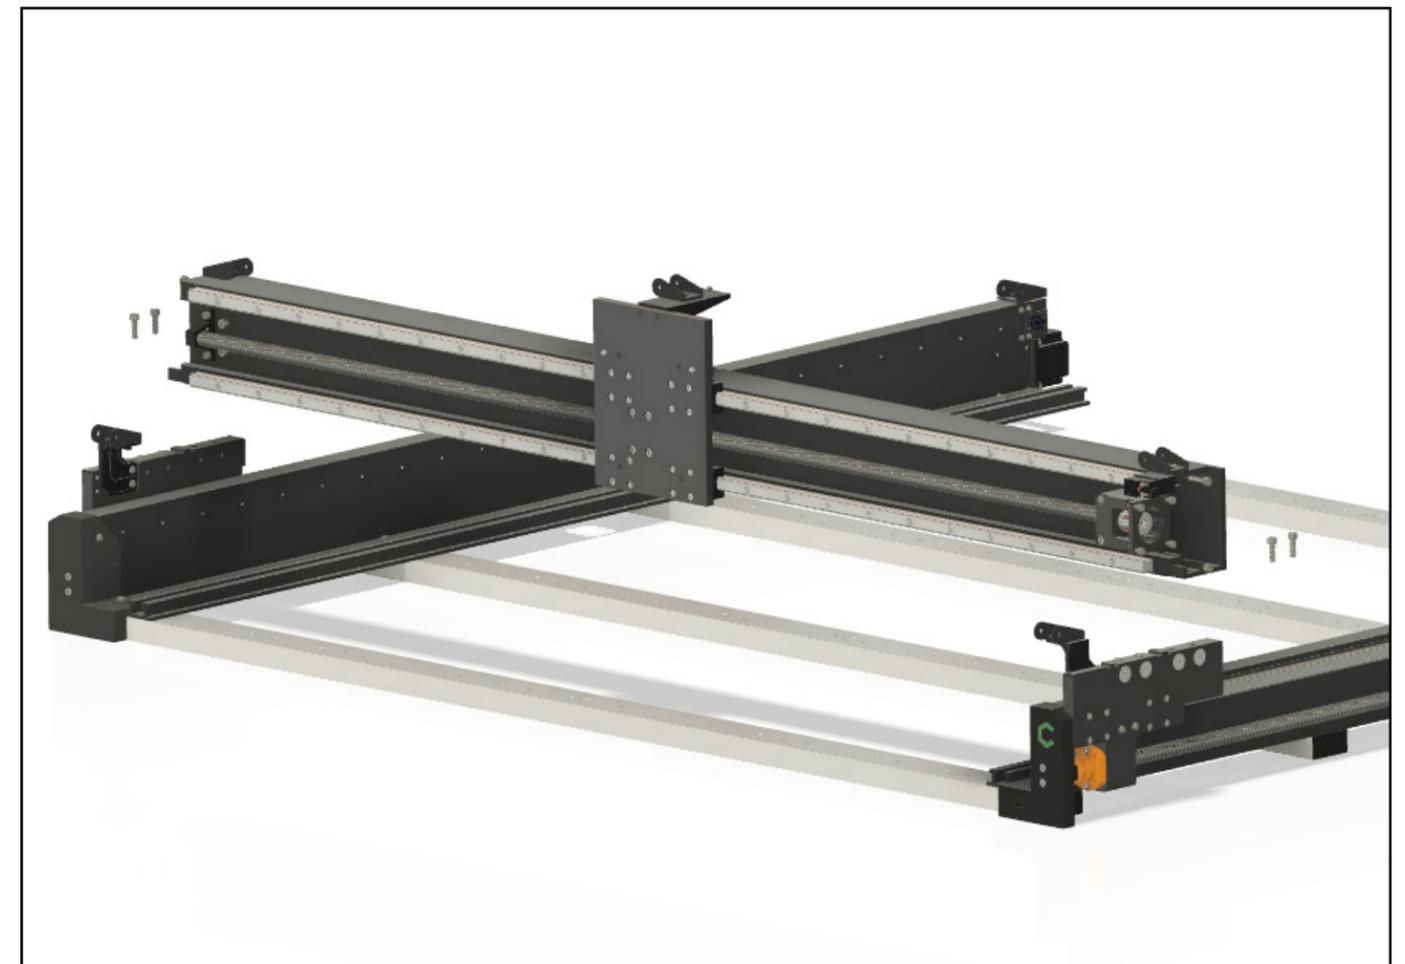

Figure 1-5
1. Lift the gantry from the box and set it onto the rear position of the Y-Axis carriage plates, over the now-empty screw holes. See **Fig. 1-5**.